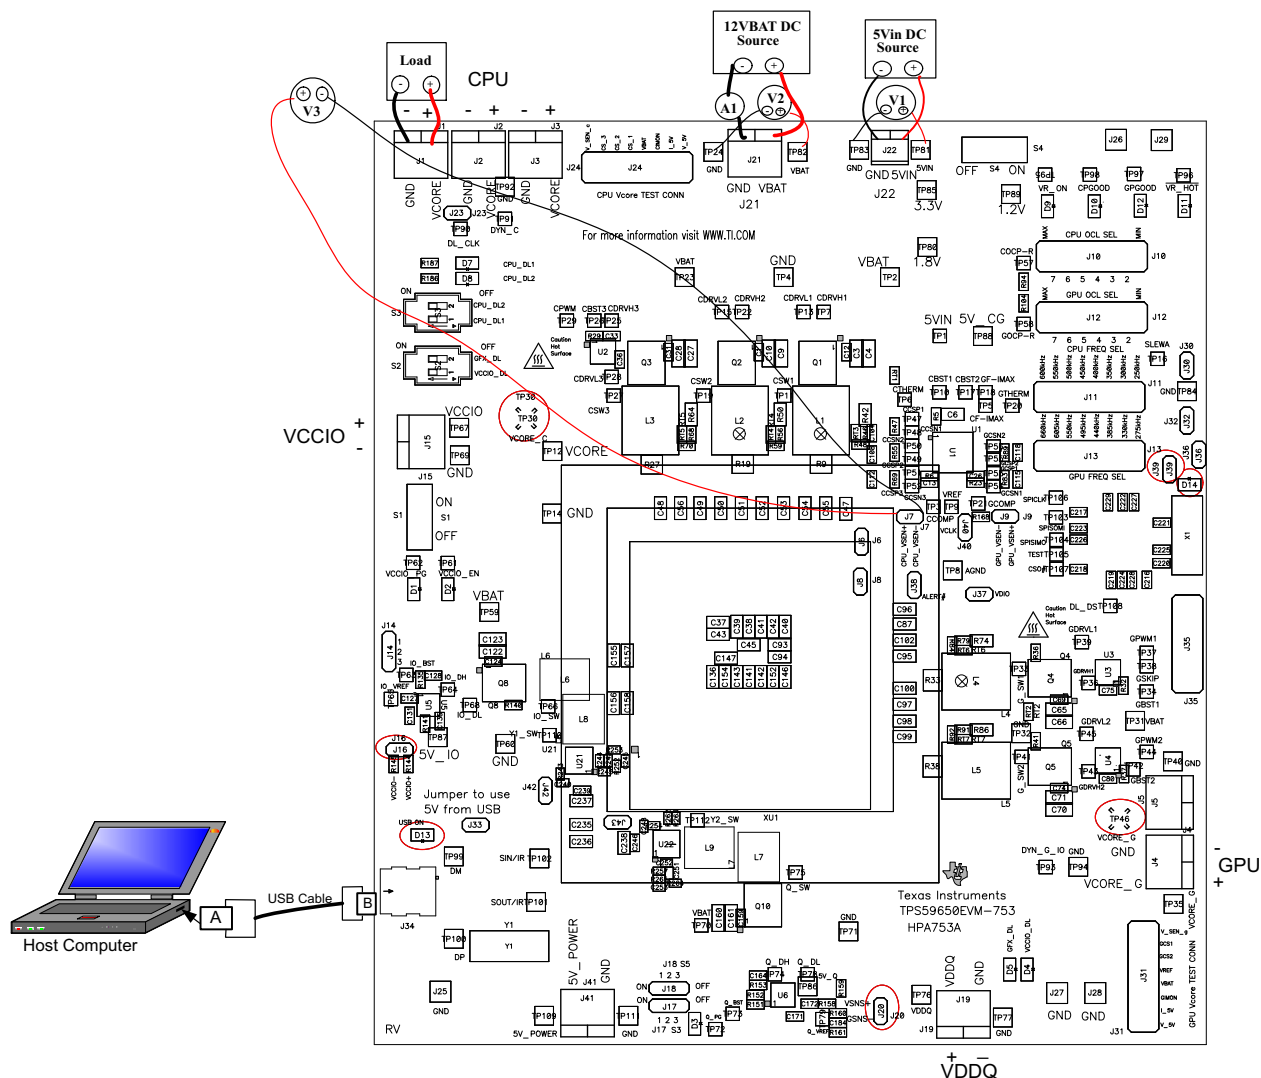

Figure 4. TPS59650EVM-753 Recommended Test Set Up
12VBAT DC Source: The 12VBAT DC source should be a 0-20V variable DC source capable of supplying 20Adc current. Connect 12VBAT to J21 as shown in Figure 4.
5Vin DC Source: The 5Vin DC source should be a 0-5V variable DC source capable of supplying 1Adc current. Connect 5Vin to J22 as shown in Figure 4.
Figure 4 is the recommended test set up to evaluate the TPS59650EVM-753. Working at an ESD workstation, make sure that any wrist straps, bootstraps or mats are connected referencing the user to earth ground before handling the EVM.
1. Prior to connecting the 5Vin DC source, it is advisable to limit the source current from 5Vin to 1A maximum. Make sure 5Vin is initially set to 0V and connected as shown in Figure 4.
2. Prior to connecting the 12VBAT DC source, it is advisable to limit the source current from 12VBAT to 10A maximum. Make sure 12VBAT is initially set to 0V and connected as shown in Figure 4.
3. Connect voltmeters V1 at TP81 (5Vin) and TP83 (GND) to measure 5Vin voltage, V2 at TP82 (VBAT) and TP24 (GND) to measure 12VBAT voltage as shown in Figure 4.